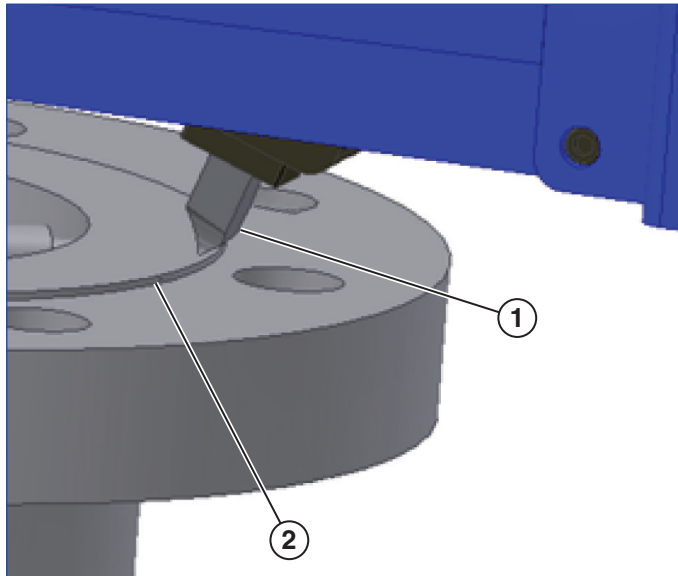

Figure 13
1. Use the ratchet wrench to position the tool bit just about to the OD of the surface to be machined (see Figure 13).